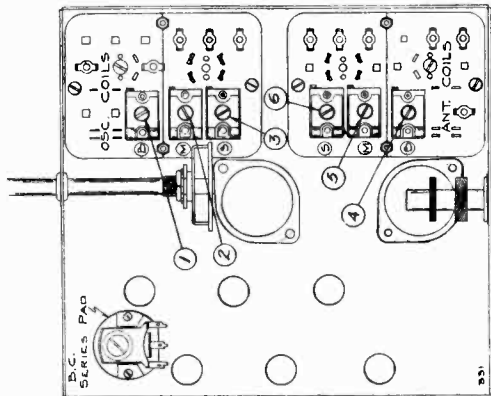

FIG. 3.—BOTTOM VIEW SHOWING TRIMMERS
- Set external oscillator to 1720 K.C. and adjust broadcast oscillator trimmer to resonance (adjustment number 1; see bottom view of coil assembly, Fig. 3)
- Re-set external oscillator to 600 K.C., and adjust broadcast series pad to resonance by rotating condenser to approximately 600 K.C., rocking it slowly from right to left by adjusting setscrew. Read maximum output is obtained. This adjustment is made at the bottom of the chassis directly under the variable gang condenser. (See bottom view of chassis, Fig. 3)